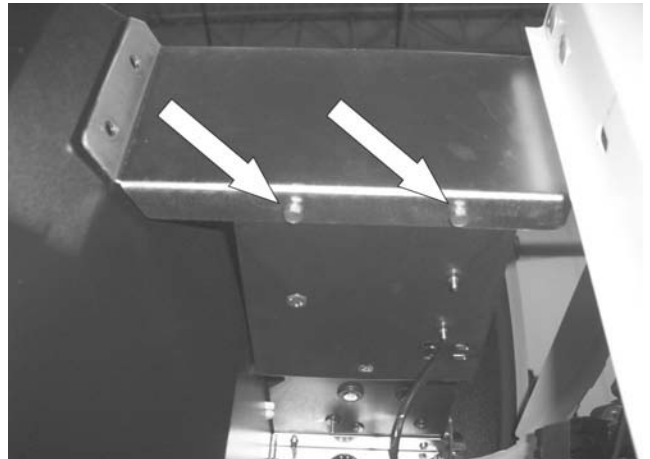

Figure 169.
6. **Remove controller mounting box:** Using an 8mm socket remove the two screws from the rear of the controller mounting box. Using a 10mm socket remove the two bolts from under the front of the controller mounting box. See Figure 169.